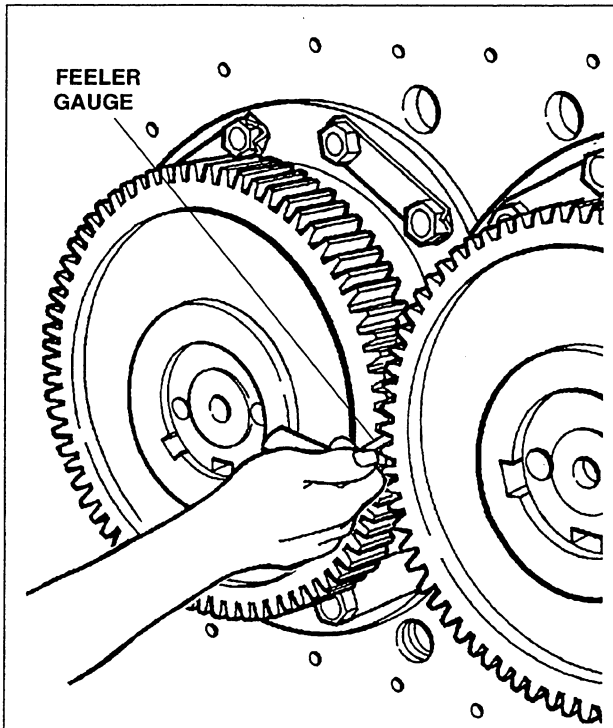

Figure 4-13. Checking Gear Backlash
B. Check gear backlash using feeler gauges as shown in Figure 4-13. Backlash should be within the limits listed in Table 4-5.